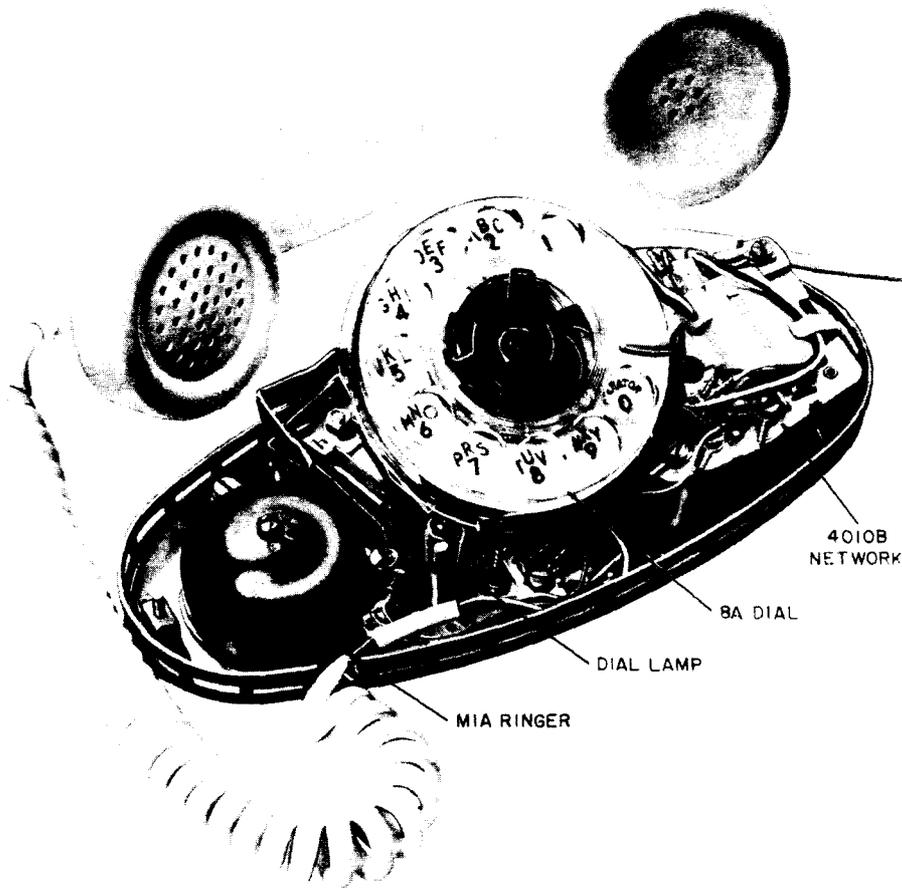

Fig. 5 — 702B Telephone Set — Housing Removed
2.22 The 702B telephone set (Fig. 5) consists of an 8A dial, 4010B network, M1A ringer, G3AR handset, and a lamp for dial illumination mounted on a metal base and enclosed in a plastic housing. A five conductor mounting cord is also included.